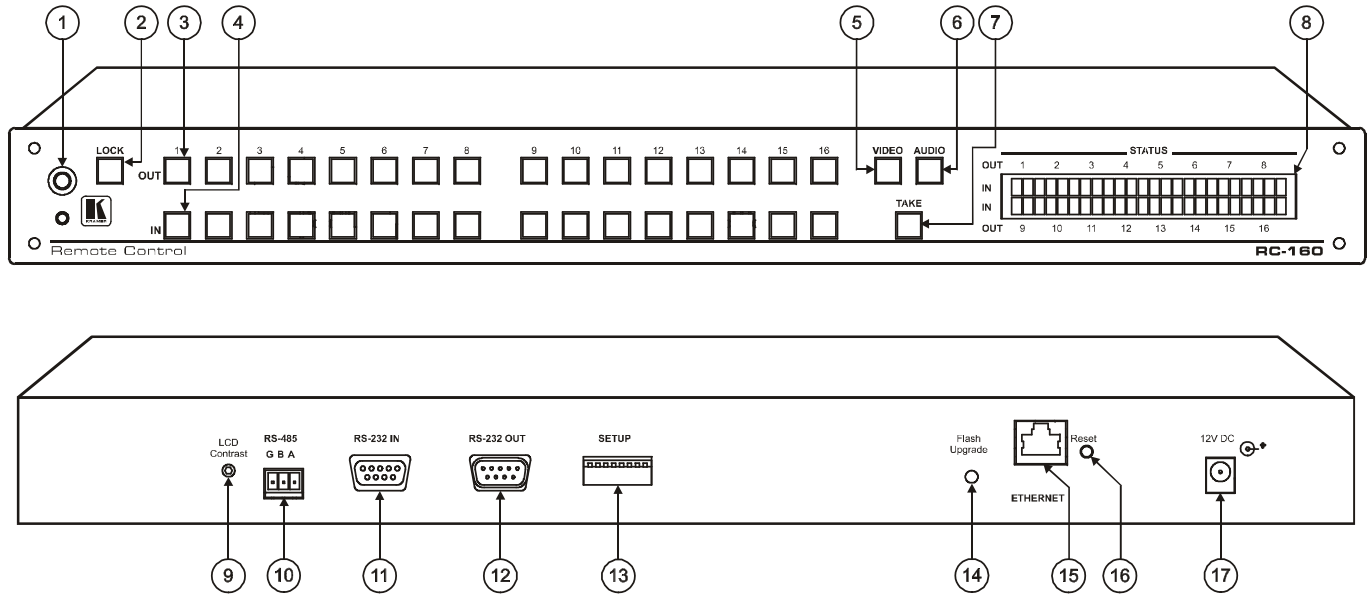

Figure 2: RC-160 Remote Control
- Figure 2 illustrates the **RC-160** Remote Control